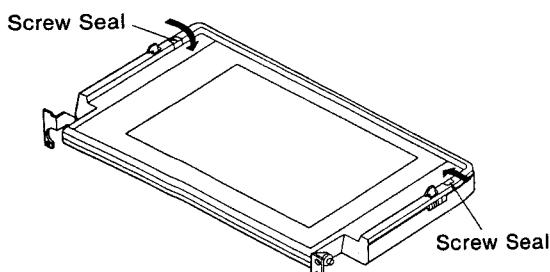

Figure 26
- (2) Gently remove two screw seals by pressing them with a flat head screw driver in the direction of arrows as shown in Figure 26.